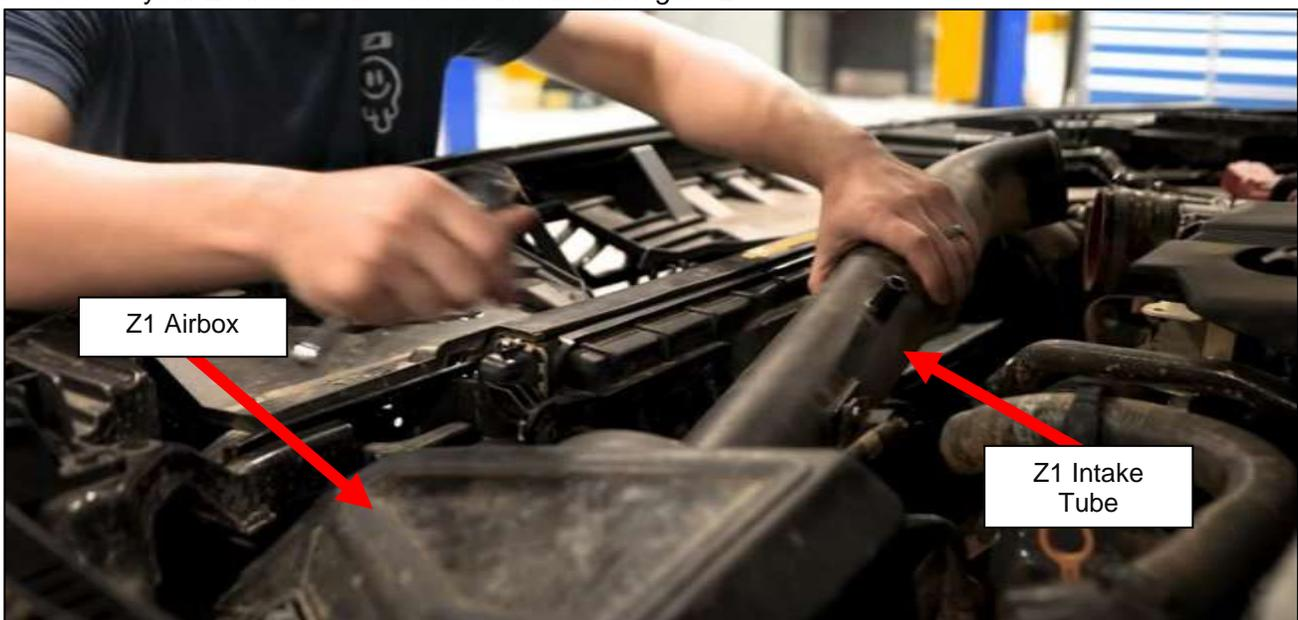

Figure 2
4. Remove your Z1 Intake Tube and Intake Airbox. *Figure 2*